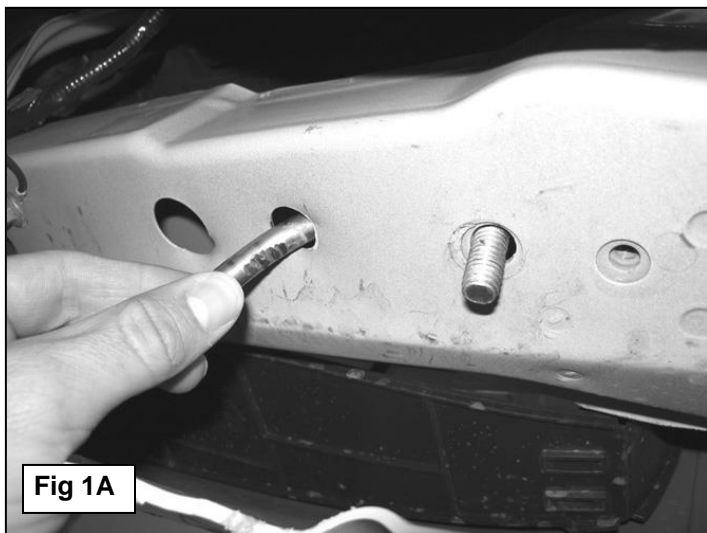

Fig 1A
- Starting on the driver side, locate the two non-threaded factory holes in the bottom of the cross member. Insert the wider, driver side 10mm "U" Bolt, (**Figure 1B**), into one hole and back out the second hole as pictured in **Figure 1A**.